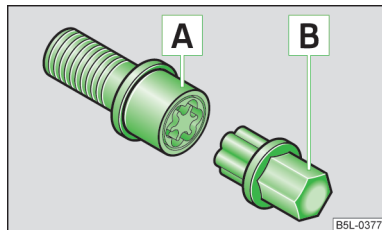

Fig. 151
The anti-theft wheel bolts protect the wheels from theft. These can only be loosened or tightened with the use of adapter [B] » Fig. 151.
- Insert adapter [B] » Fig. 151 with the toothed side all the way into the inner teeth in the head of the anti-theft wheel bolts [A].